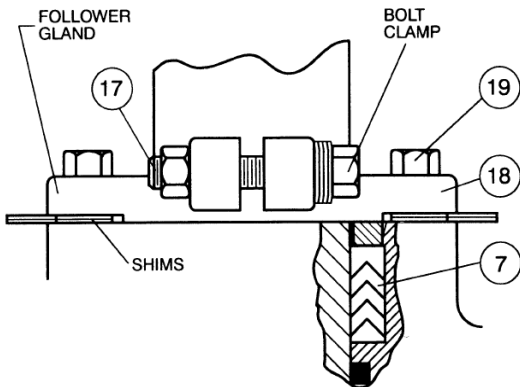

FIGURE 9. FRICTION ADJUSTMENT
DIRECT NUT FRICTION ADJUSTMENT: As shown in Figure 9, valves with direct nut actuators have a flanged packing follower (18) above the packing (7) to hold the valve in the open or closed position. If the valve is difficult to operate, or does not maintain its set position, adjust the clamp bolt (17) to provide sufficient friction to hold the valve in position. IF the valve is equipped with a hand lever, the setting should allow the valve to be operated with about 80 pounds of force on the end of the pipe handle.